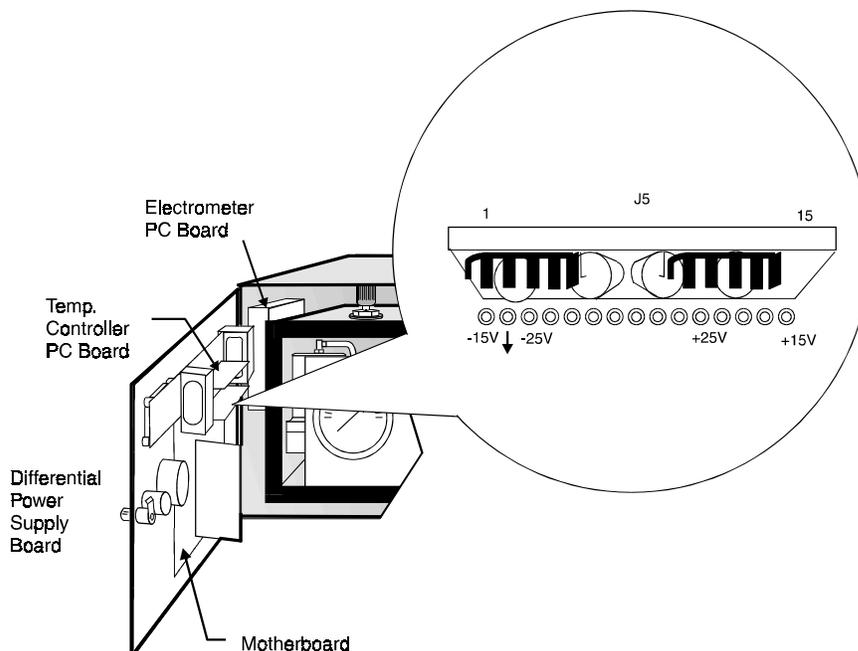

Figure 5-1: Checking the Differential Power Supply
1. Connect the **negative** voltmeter lead to the common (pin 2) and the **positive** lead to pin 15 of connector J5. The measured voltage should be 15 ± 1 volt. See Figure 5-1.
1. Connect the **negative** voltmeter lead to the common (pin 2) and the **positive** lead to pin 15 of the card connector. The measured voltage should be 15 ± 0.5 volt. Refer to Figure 5-1.